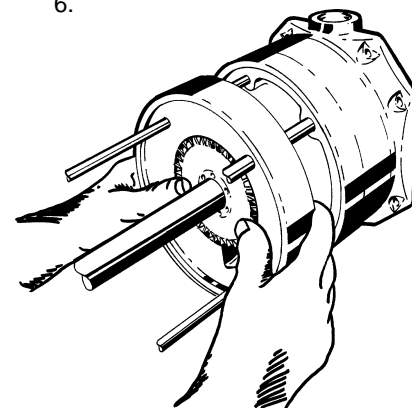

Figure 4-6
11. Remove the next Channel Ring (#10) using the same care as with the first. The Impeller (#11) will come off along with the channel ring. Do not attempt to pry the impeller off first, as prying will damage the impeller vanes. Hold the impeller in place when it reaches the end of the shaft so it does not fall. Refer to Figure 4-6.
3. Remove the four (4) nuts (#20) from the guide rods (#18).
4. Remove the eight (8) nuts (#20) from the thru bolts (#19) located on the inlet cover (#1 or #1IN). Pull out the thru bolts.
7. Remove the four (4) guide rod "O"rings (#8).
11. Remove the next channel ring (#10) using the same care as with the first. The impeller (#11) will come off along with the channel ring. Do not attempt to pry the impeller off first, as prying will damage the impeller vanes. Hold the impeller in place when it reaches the end of the shaft so it does not fall. Refer to Figure 4-6.